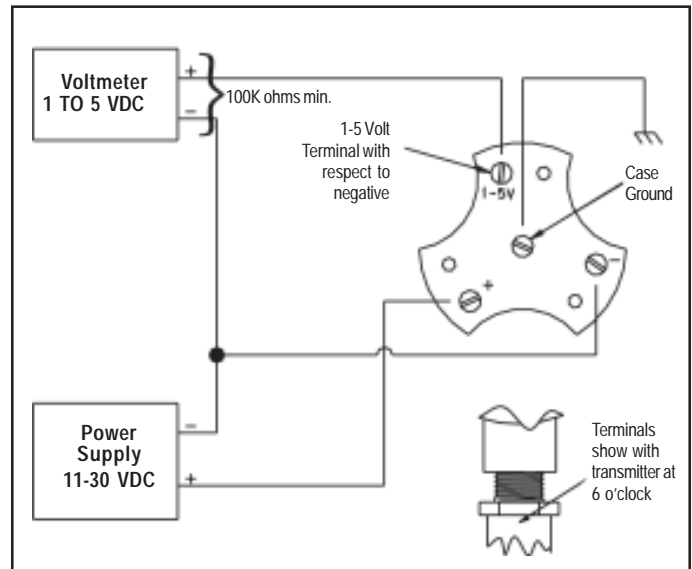

FIGURE 3
Two calibration screws (zero and span) are located underneath the adjustment cover. (See Figure 3.) Loosen the cover screws slightly (do not remove) and rotate the cover to reveal the adjustment screws.
1. Connect the transmitter as shown in Figure 3. Case ground must be connected to earth ground to ensure EMI/RFI protection.